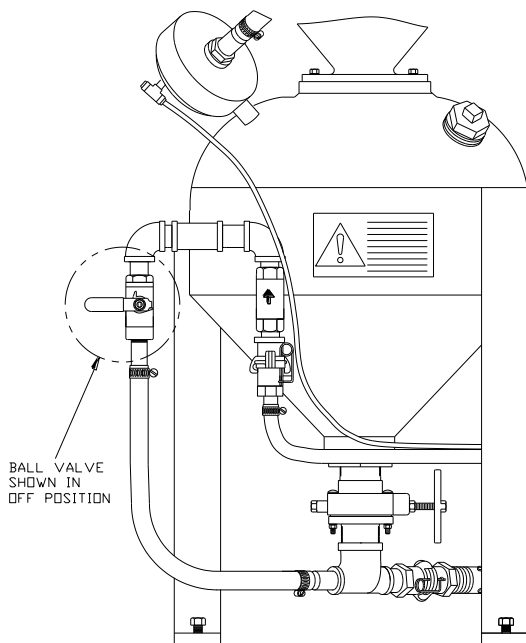

Figure 15. Closed Choke Valve
- Close the choke (ball) valve on the pressure vessel pipe string. (see Figure 15).